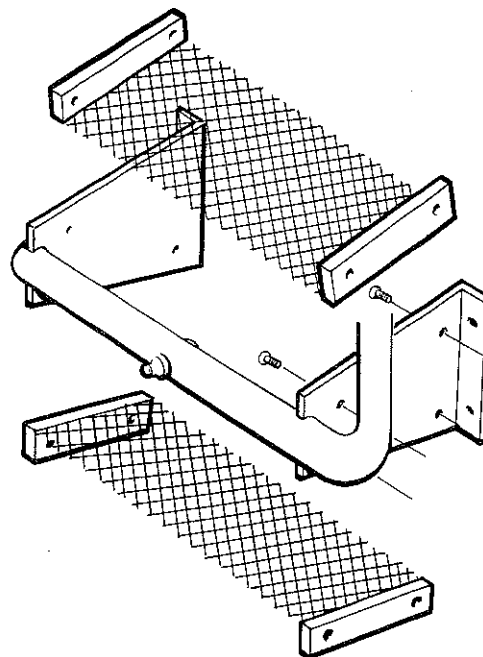

Figure 9
1. After removing the front panel/burner assembly from the boiler as instructed in paragraph 6 under "Cleaning the Boiler", unscrew the eight screws securing the anti-lint gauze shields to the flanges of the manifold (see sketch Fig. 9). Remove the shields.